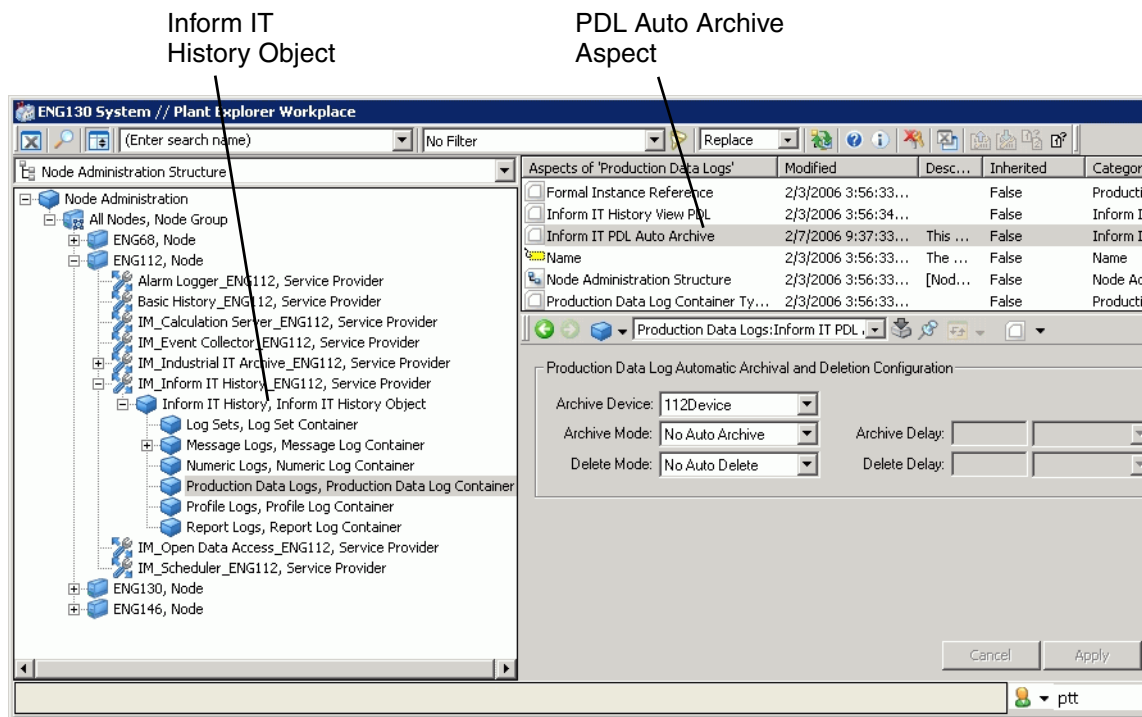

Figure 251. PDL Archive Configuration Window
3. Select the **Inform IT PDL Auto Archive** aspect, Figure 251.